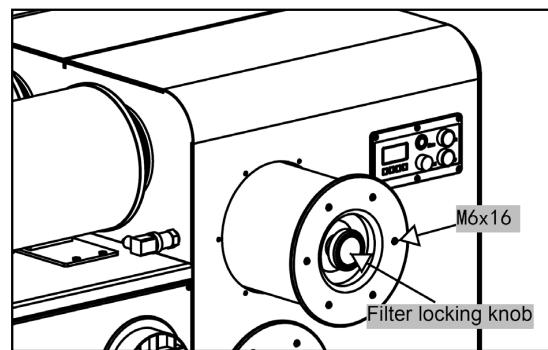

Figure 15
6.3 Cleaning or changing the filters (figure 15)
2. As shown in figure 15, turn the locking knob and pull out the filter. Use compressed air to clean the dust on the outside of the filter.
1. As shown in figure 15, turn the filter locking knob and pull out the filter.
3. As shown in figure 15, mount the new filter, screw the 6- M6x16 screws back into place and turn and firmly lock the knob.